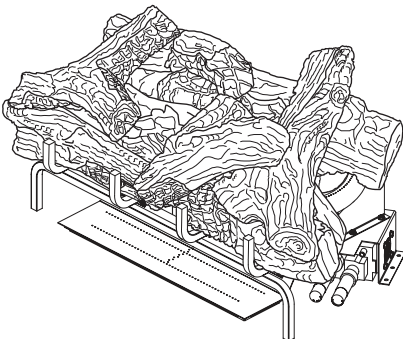

Figure 36- Final Assembly
9. Final Assembly is shown in Figure 36, page 21.